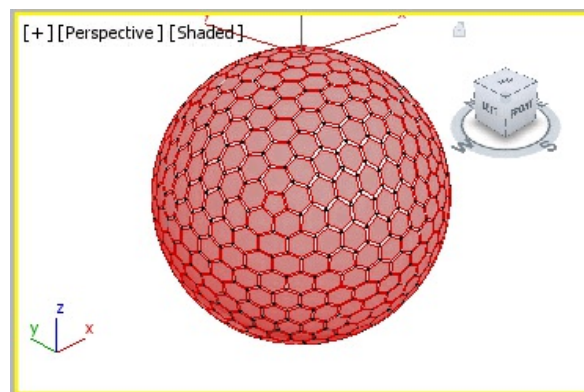

Figure 8-118 All hexagonal polygons of golf ball selected in the viewport
10. Choose the **Select Invert** option from the **Edit** menu; all the new hexagonal polygons of *golf ball* are selected in the viewport, as shown in Figure 8-118.